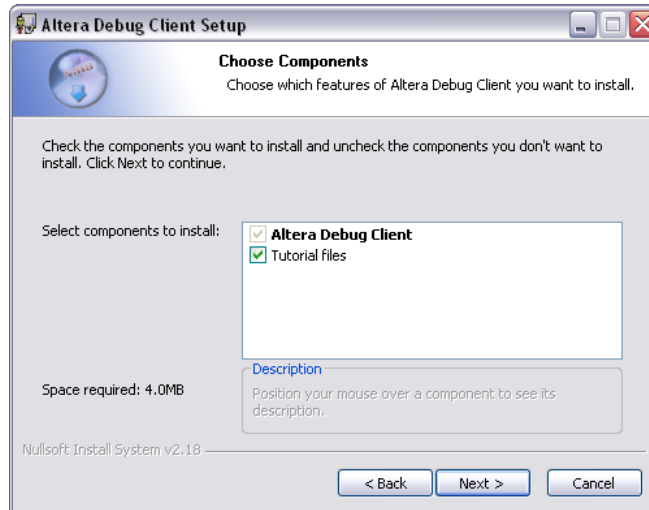

Figure 3. Choosing which components to install.
4. On the next screen, you can choose which components to install, as shown in Figure 3. Leave both components checked to install the Debug Client program files along with the tutorial and sample files needed for this tutorial. Click **Next** to continue.